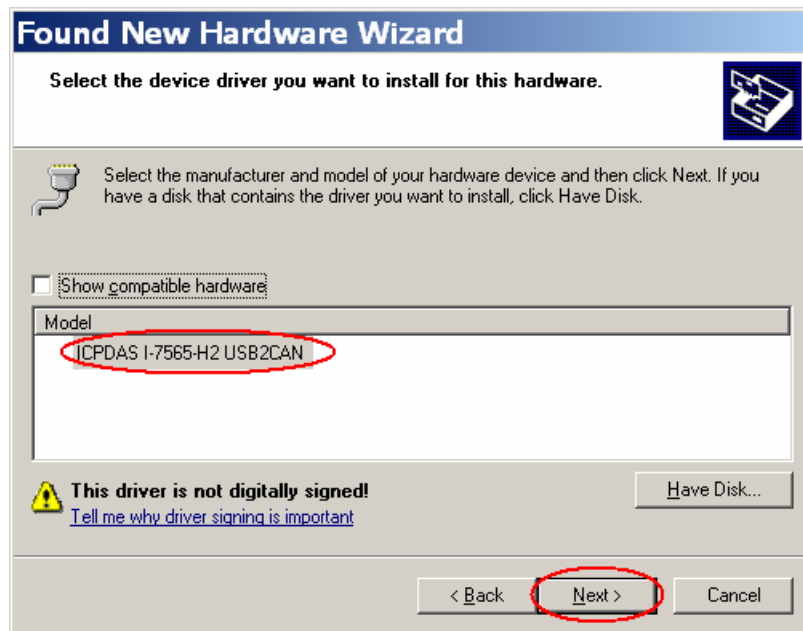

Figure 6-5: Driver Installation of I-7565-H1/H2 (2)
- (4) When the Figure 6-5 shows, click “Next” button and the other steps are the same with those in chapter 3.